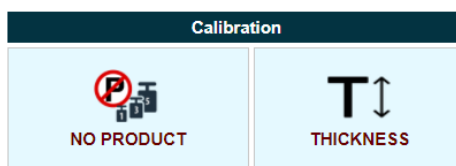

FIGURE 16: CALIBRATION - NO PRODUCT BUTTON
- Click on the NO PRODUCT calibration button in the logging center (Figure 16). This automatically calibrates the sensor during a few seconds.